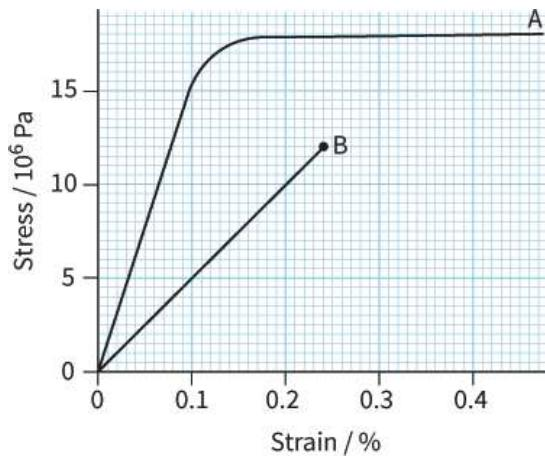

Figure 7.14: Stress-strain graphs for two different materials.
- 15 Figure 7.14 shows stress-strain graphs for two materials, A and B. Use the graphs to determine the Young modulus of each material.